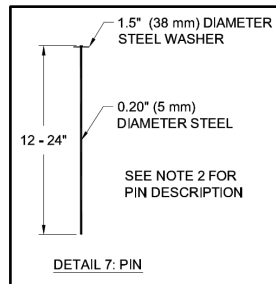

Figure 4: Securing Pin
3. Secure ARMORMAX with pins and Secondary anchors in the COS trench. Pins should be made of steel with a 0.20 in (5 mm) minimum diameter, having a 1.5 in (38mm) diameter washer at the head, and a length between 12 and 24 in (300-600 mm) with sufficient ground penetration to resist pullout (Figure 4). Longer pins may be required for looser soils. Heavier metal stakes may be required in rocky soils. Suggested placement of pins and Secondary anchors for the COS trench is